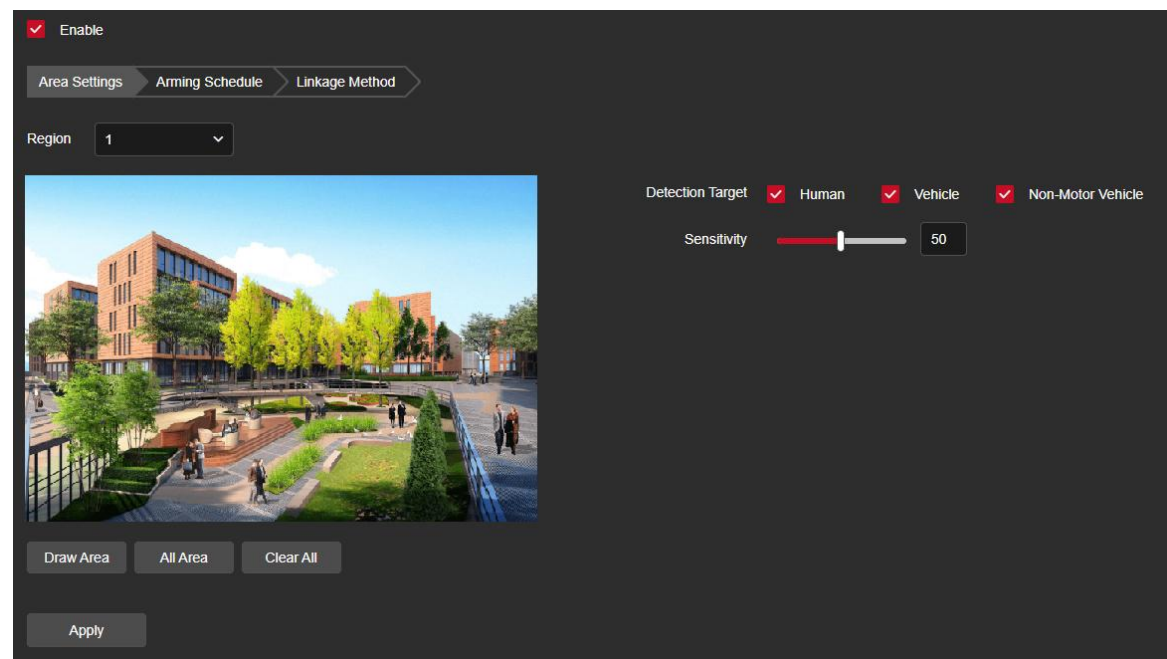

Figure 8-6-27
Step 1: In the main interface click on the "Configuration → Event → Smart Event → Leave Area" to enter the Leave Area Detection settings interface, as shown in Figure 8-6-27.